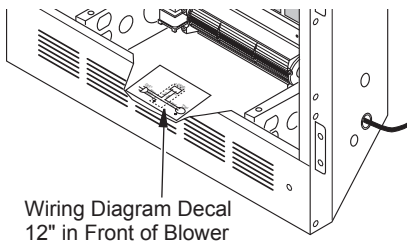

Figure 28 - Location of Wiring Diagram Decal (Model May Vary From Illustration)
- Peel off the backing paper and stick the supplied wiring diagram decal on the firebox bottom approximately 12" in front of the blower (see Figure 28).
11. Peel off the backing paper and stick the supplied wiring diagram decal on the firebox bottom approximately 12" in front of the blower (see Figure 28, page 20).